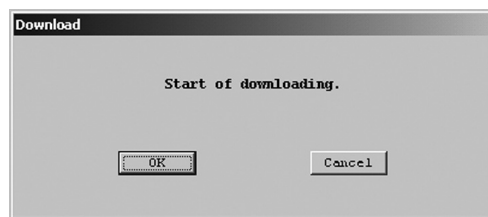

Fig.94
- ④ On seeing a message box like the one shown in Fig. 94, click on "OK" button if you want to download the data into the transmitter.